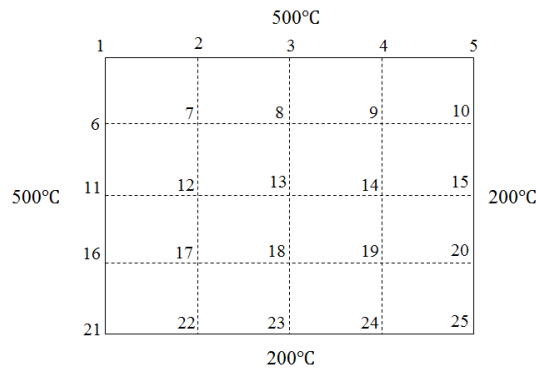

FIGURE P2.4
2.4 Figure P2.4 shows a flat square plate the sides of which are held at constant temperatures (200°C and 500°C). Find the temperatures at inner nodes (i.e., $T_7 - T_9$, $T_{12} - T_{14}$, $T_{17} - T_{19}$). The temperature at each inner node is assumed to be given by the average of temperatures of adjacent nodes.